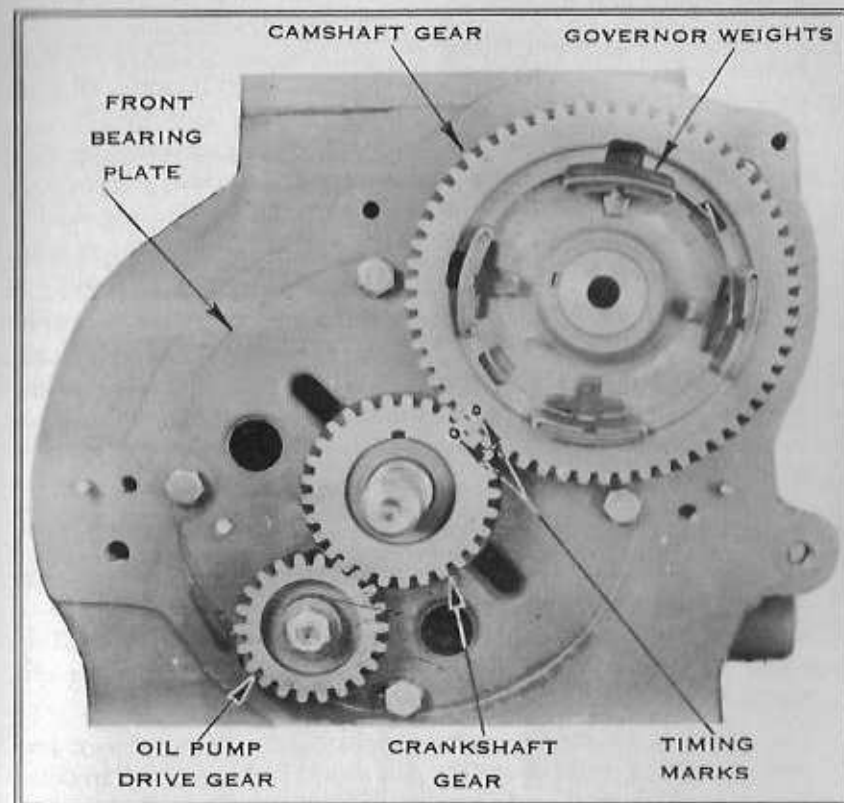

FIG. 38 TIMING GEAR MARKS
- m. Install the correct spacing washer behind the crankshaft gear, if required. Use a suitable piece of brass, or iron pipe with hammer to drive the crankshaft gear onto the shaft. Be sure that the side having the timing mark (O) faces outward, that the keyway is in line with the Woodruff key, and that the teeth mesh properly with the teeth of the camshaft gear and the oil pump drive gear. The timing marks on crankshaft gear and camshaft gear must be aligned before meshing the gears. See Fig. 38. The nut may be tightened after installing the flywheel. A screwdriver inserted between flywheel blower fins and against a crankcase generator boss while tightening the nut, will prevent the crankshaft from turning.
The timing mark on the crankshaft gear must coincide with the timing mark on the camshaft gear when the gears are installed. See Fig. 38. The correct amount of backlash between the teeth of the gears is .002 in. to .005 in. Check the backlash at all positions of the camshaft gear. It is good practice to inspect the teeth of both gears carefully to see that none are damaged. A small raised spot on the surface of a tooth, due to a bruise or nick, may cause a great deal of noise. If not too bad, the raised spot may be removed by careful filing.